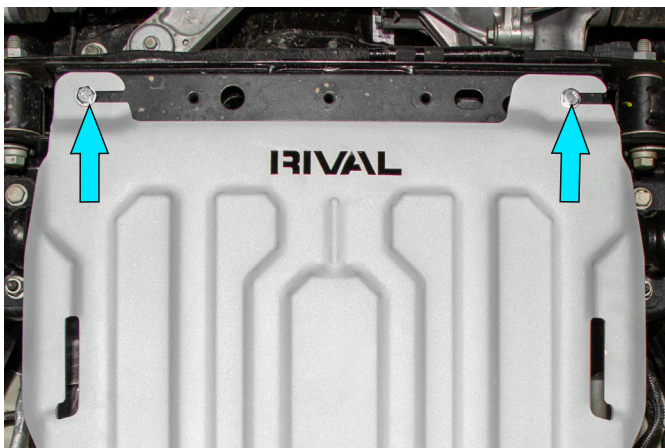

Fig. 3
3. Slide the front of the transmission skid plate (item 1) over previously installed M10x35 bolts and M10 washers. If using the Factory or Rival engine skid plate, slide the transmission skid plate on top of the engine skid plate (Fig.3).